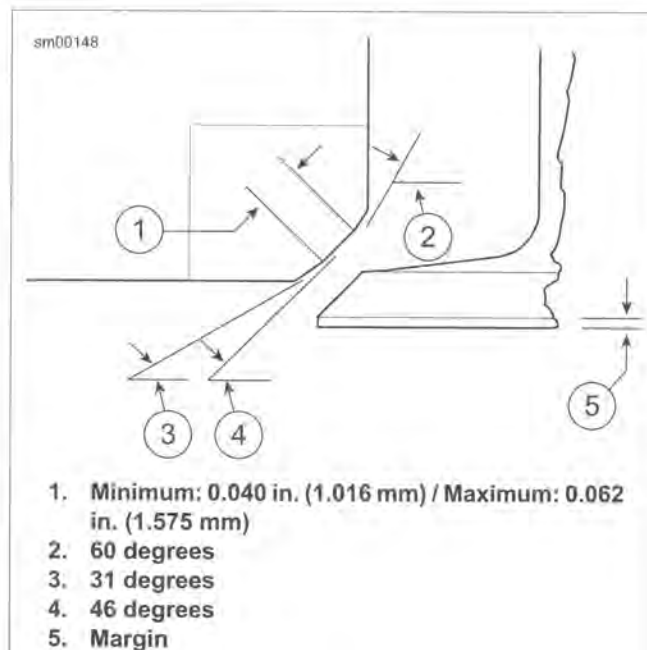

Figure 3-47. Valve and Seat Dimensions
- Replace the valve if margin is less than 0.0313 in (0.795 mm). See Figure 3-47.